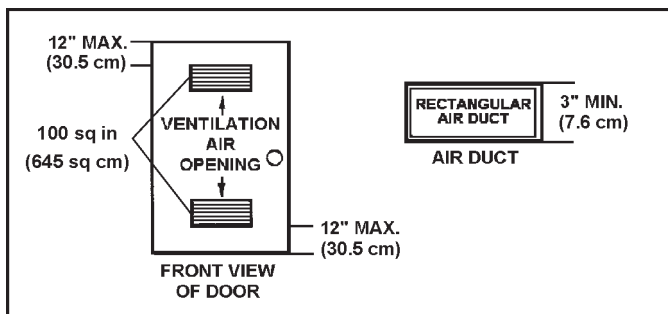

FIGURE 10.
A. ALL AIR FROM INSIDE BUILDINGS: (See Figure 10 and 11)